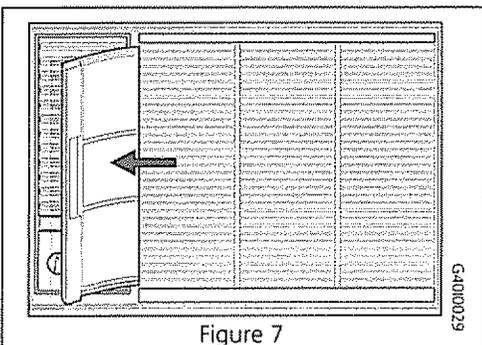

Figure 7
- Six-way louver models have a slide out filter. Grasp the formed handle of the filter and pull it to the left, removing it from the front panel (Figure 7)